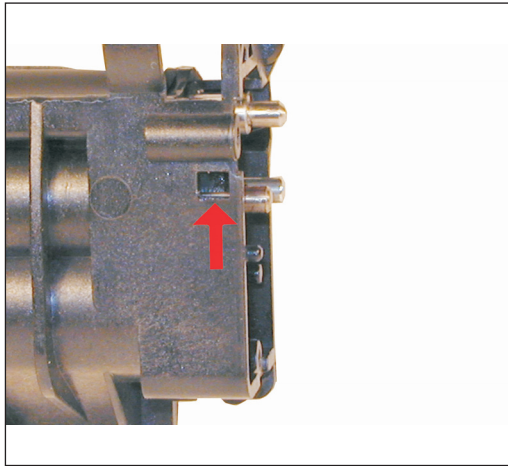

Figure 18
13) Press in on the bottom tab of the Developer roller plate to release it. See Figure 18